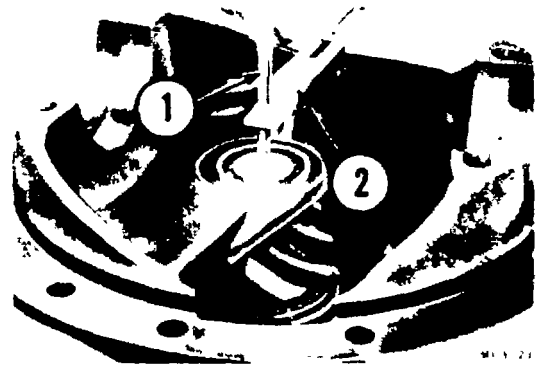

Fig. 13. Locating Step Plate Clamp
14. Install pinion, cage and bearing assembly in differential carrier. Obtain step plate clamp assembly from SE-1065 Pinion Setting Gauge set and attach it to differential carrier flange, locating step plate clamp screw over center of pinion (Fig. 13).